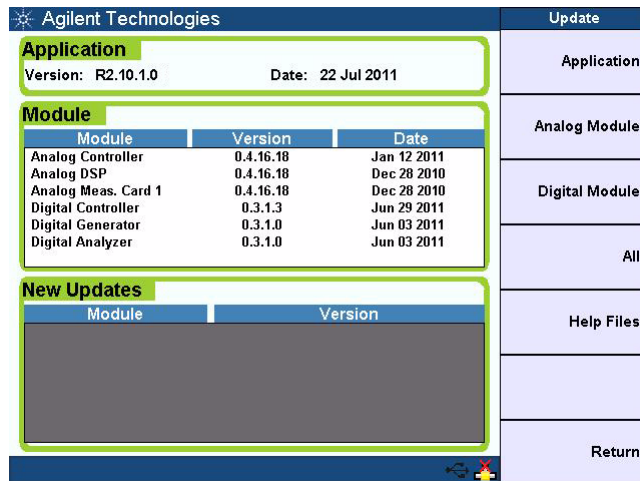

Figure 1-10 Update menu
- 2 From the system menu page, press **Update**. The Update menu is displayed as shown in Figure 1-10.